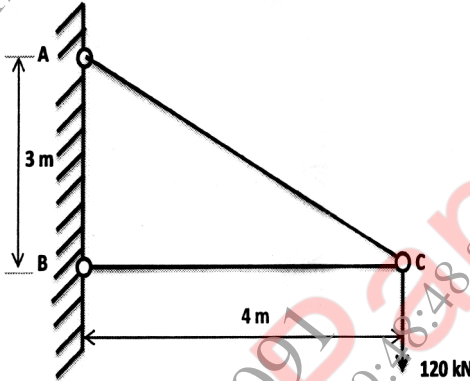

Fig. 5
3. (a) Find the vertical deflection of joint C of the pin jointed truss shown in Fig. 5. The cross-sectional area of horizontal member is  $1600 \text{ mm}^2$  and the c/s area of inclined member is  $2000 \text{ mm}^2$  each. Take  $E = 200 \text{ kN/mm}^2$ . [6]